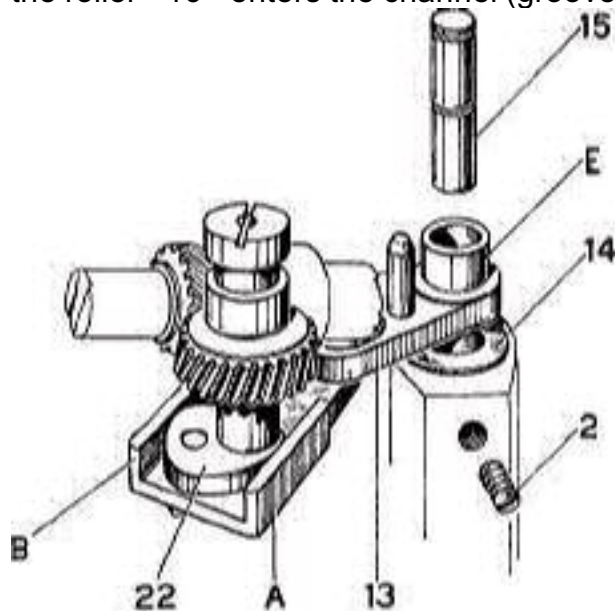
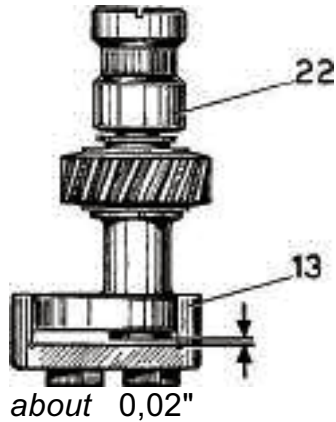

Fig. 50
Fig. 51
centric " 22 " enters the two sides " A " and " B " of the channel (see Fig. 50).
- g) The bearing bushing " E " of the lever assembly must be set down on washer " 14 " and retaining ring " 11B " *without force*. Adjust the clearance (open distance) between the underside of the eccentric " 22 " (see Fig. 50) and the channel of the lever assembly " 13 " so that there is a free space of about 0,02" (see Fig. 51).
- h) Tighten securely screw " 2 " which holds pin " 15 " in the hole of the upper arm (Fig. 50). Place the sector " 21 " (Fig. 46) on the short stud in the link " 35 " of the vertical shaft, then let the sector " 21 " move into the groove underneath the lever assembly " 13 ".